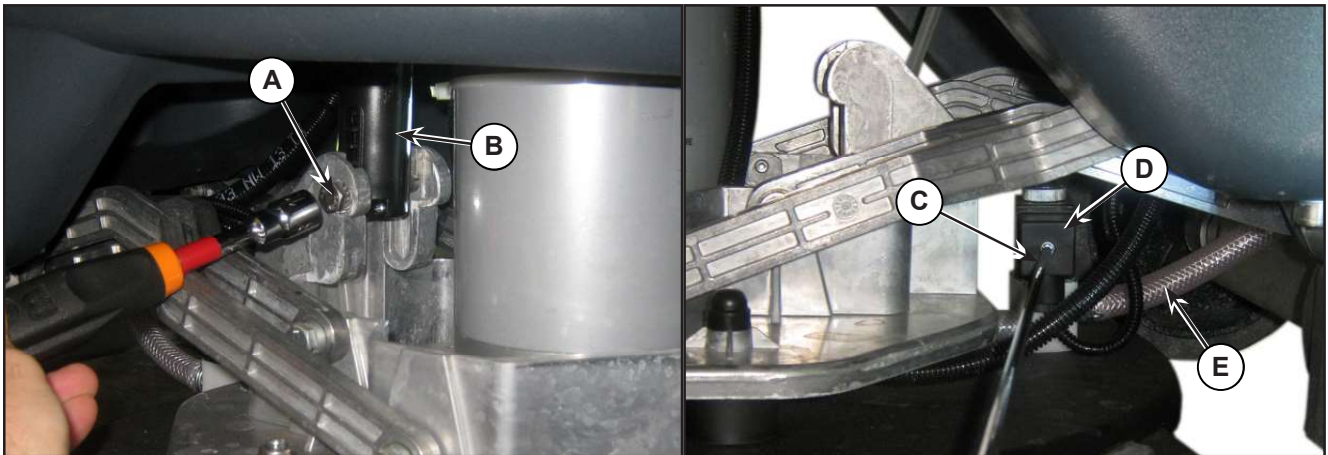
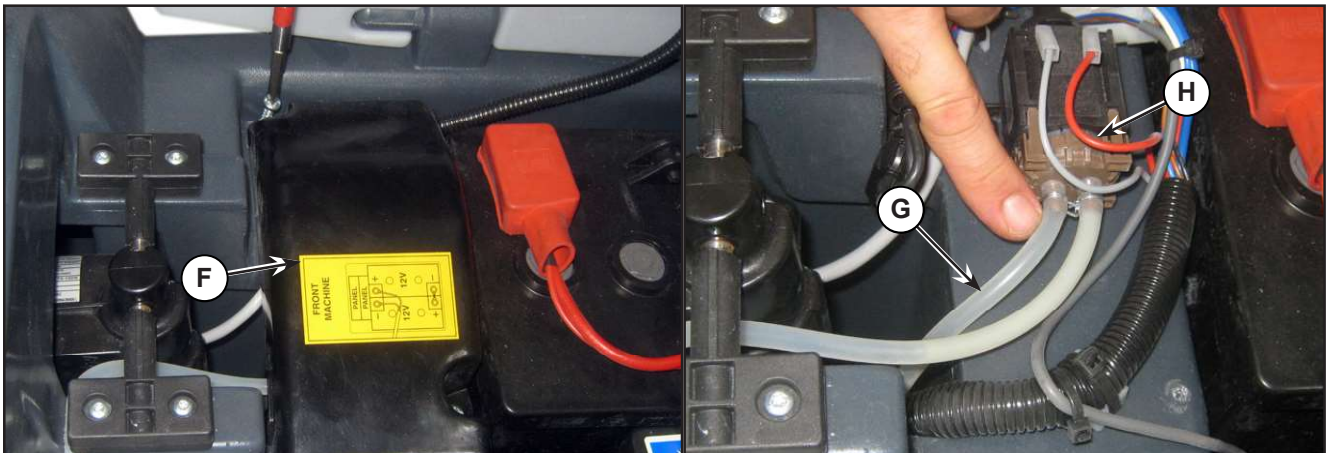

Figure 7:
Figure 8:
5. Undo the screw (A) (Figure 7) on the pin of the actuator (B); retain the bushing.
6. Unscrew and disconnect the connection (C) on the solenoid valve (D).
7. Disconnect the detergent supply hose (E) from the solenoid valve.
8. Remove the cover (F) (Figure 8), then disconnect the hose (G) from the detergent pump (H).